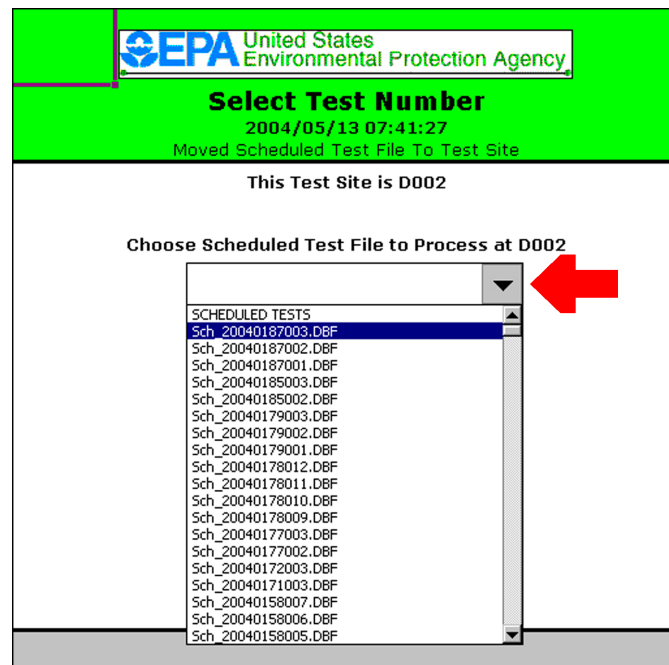

Figure 3
- 7.7.5 On the "Select Test Number" screen, click on the arrow next to "Scheduled Tests" and locate the test number to be transferred by scrolling through the drop-down list. Double-click on the selected test number. See the arrow in Figure 3.